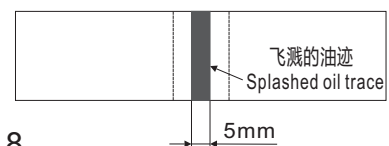

图8 Fig.8
5 旋梭油量调节 (图6、图7、图8) Oil mass Adjustment of Rotating Hook (Fig. 6, Fig. 7, Fig. 8)
2) 请在缝纫机转动时将油量确认专用纸插入(具体操作见图8所示)。
2) Insert the special oil mass confirmation paper when the sewing machine is rotating (detailed operations are described in Fig. 8).
1) 右图标样(见图8)根据不同的缝制工序需求进行增或减的微调整，但应注意不要增加或减少过多。油量过少时会引起旋梭发热，油量过多时会污染缝料。
1) The guide sample shown in the right-hand figure (see Fig. 8) may be finely adjusted (increased or reduced) as per different sewing processes; however, excessive increase or reduction shall be avoided. Too little oil mass may lead to rotating hook heating, and overmuch oil mass may lead to contamination of the sewing materials.